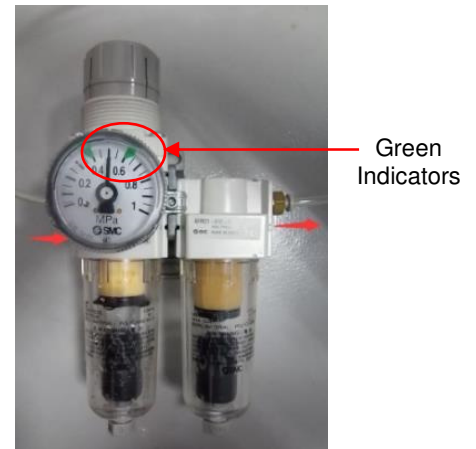

Figure 1: Air Filter
1. Install Ø4mm Air Hose from Port 2 on the Air Filter to the Compressed Air Port on the back of the grinder-polisher (see Figure 1).